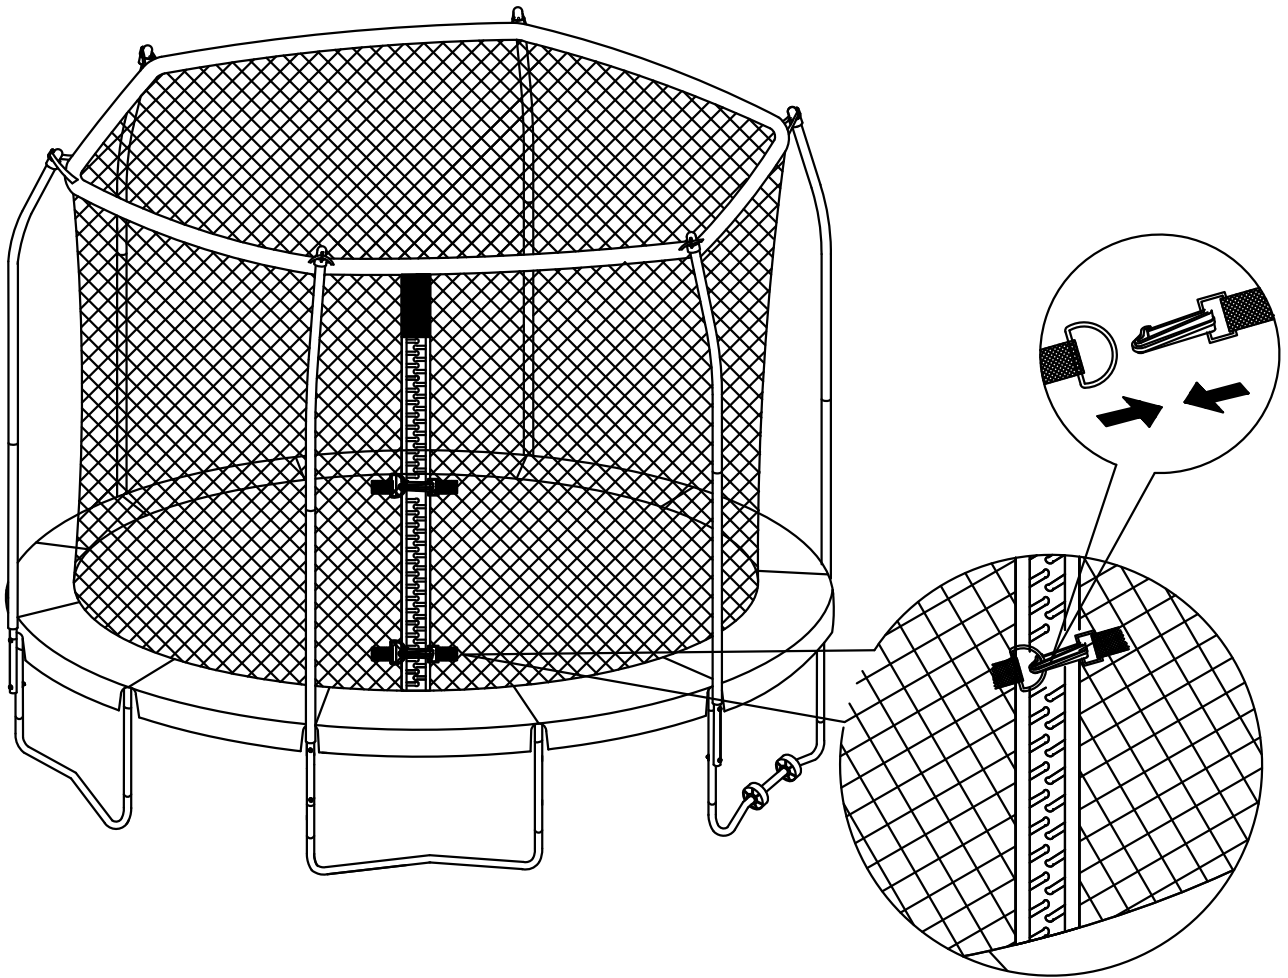

FIGURE 22
- F. Pull the zipper of ENCLOSURE NETTING at the door which should be located within one leg base of the trampoline as shown in FIGURE 22. Attach the two hooks sewn on the enclosure to the D-Ring as shown in FIGURE 22.